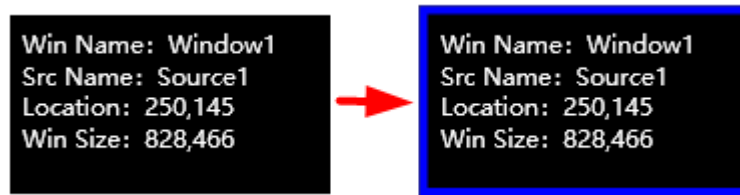

Figure 3.4.43 Single Selected Element Window
- **Select a single element window:** click the Select tool  in edit tool bar, and click on your desired element window, it will show a red rectangle surrounding the selected element window, and there are adjusting handles (white rectangle) on the element window, thus this element window is selected, as shown in **Figure 3.4.43**